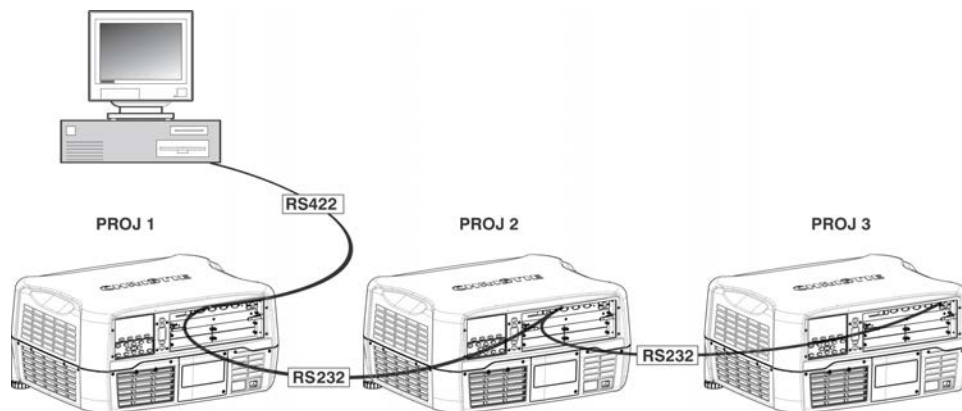

FIGURE 2-23
2. Chain the projectors together by connecting an **RS-232 OUT** (Null Cable) of the first projector (already connected to the computer/controller through the **RS-422** port straight thru to an **RS-232 IN** on the next projector in the chains). Continue connecting projectors in this manner until you have reached the last projector in the chain, so that only the last projector has one unused port **RS-232 OUT**, see Figure 2-23.